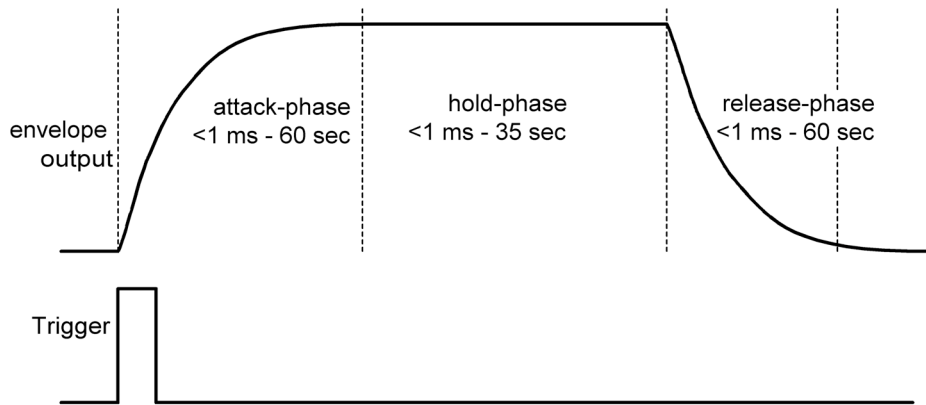

Fig. 9.5.2 AHR-envelope curve
Fig. 9.5.2 shows the basic curve of an AHR-envelope. The times apply for the value ranges with the control elements **[attack 1] (17), [hold 1] (18), [release 1] (19)** for ENV 1 resp. **[attack 2] (25), [hold 2] (26), [release 2] (27)** for ENV 2 on the frontpanel.